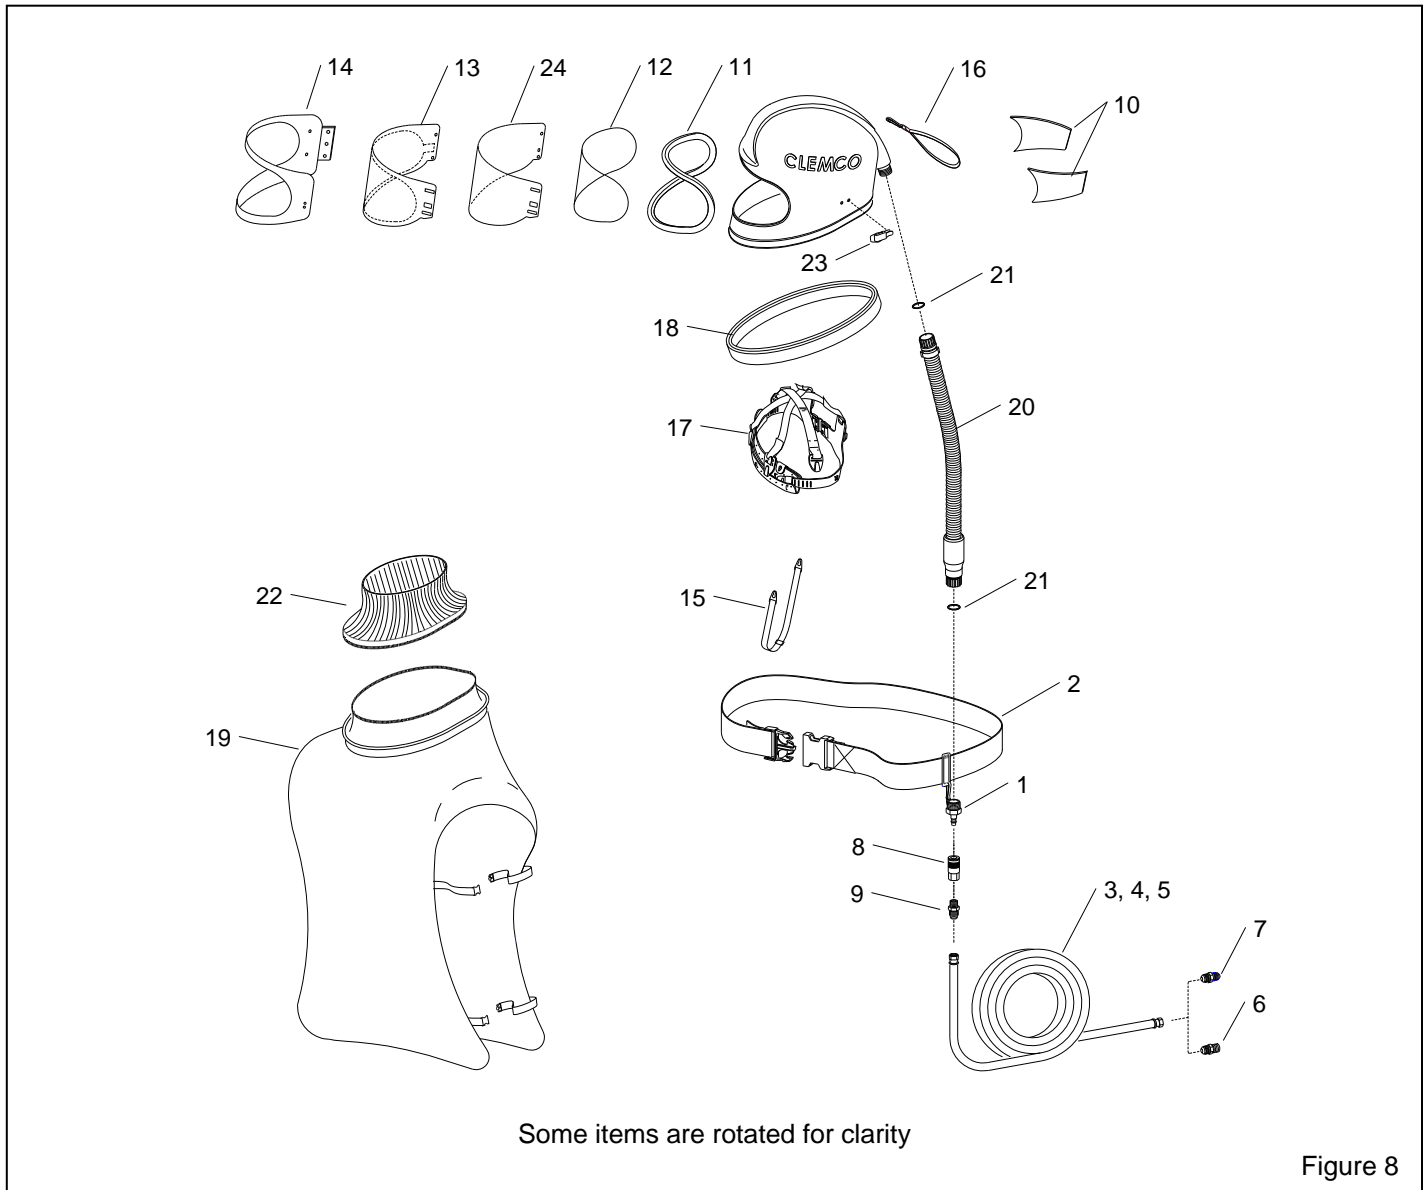

Figure 8
10.2 Respirator Replacement Parts, Figure 8